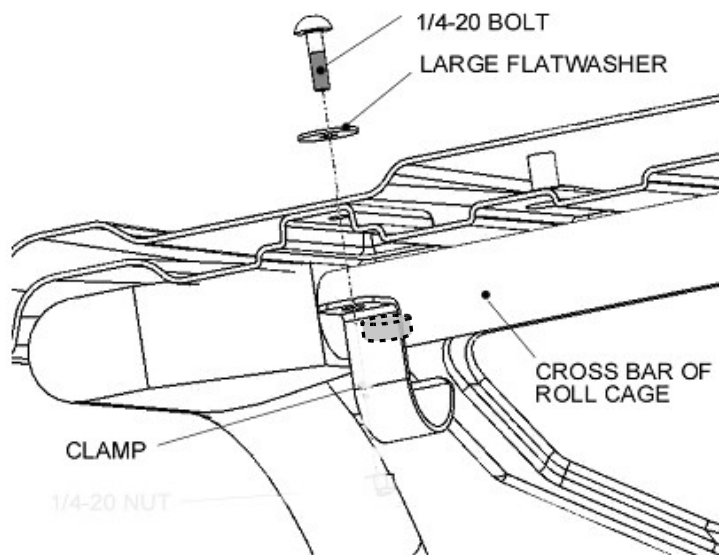
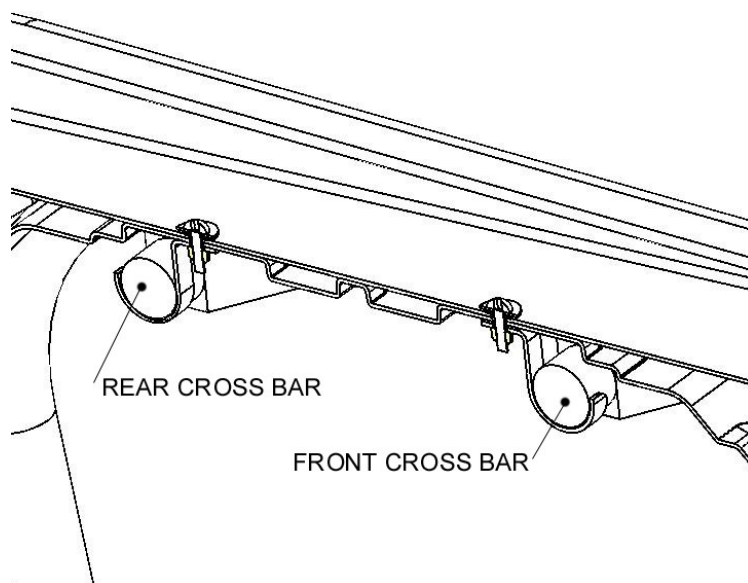

FIG 1
Fig 2
5. Proceed to install bolts and clamps in the other three hole locations. Refer to illustration for positioning (FIG2) and assembly reference (FIG 1).